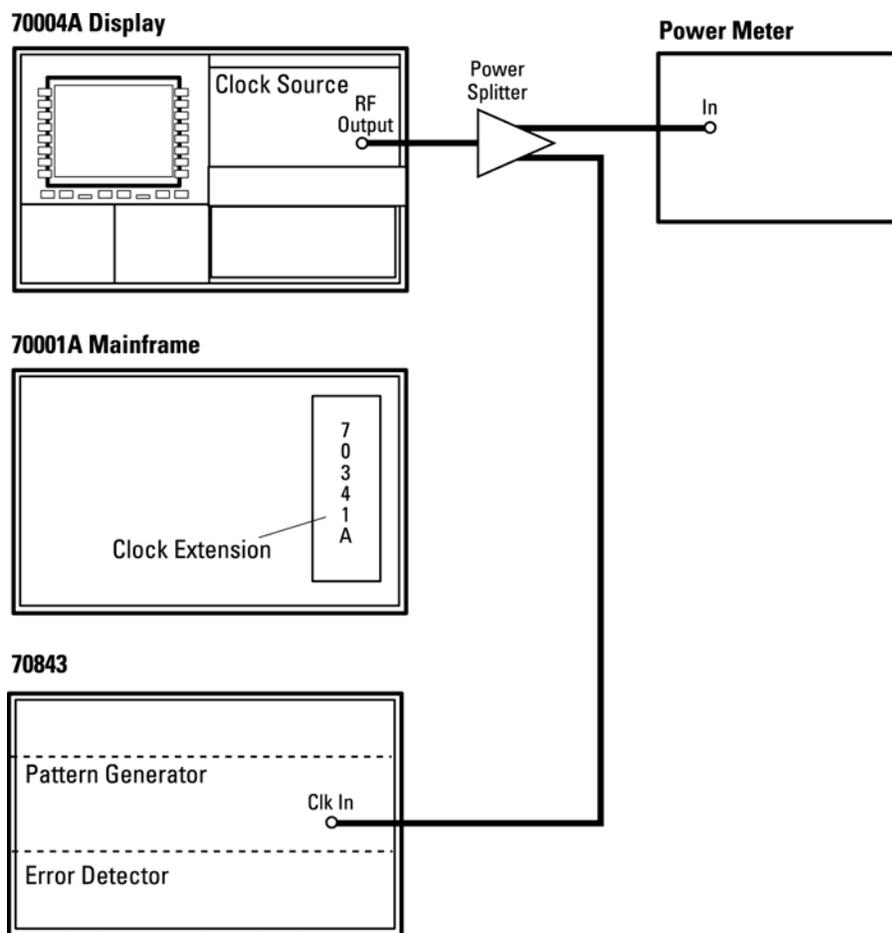

Figure 11-4
Connect the equipment as shown in Figure 11-4 and switch on the system. Press **INST PRESET** on the HP 70004A display to initialize the HP 70843 pattern generator and proceed as follows:
1. Connect the clock source RF output via a power splitter to the pattern generator and power meter as shown in Figure 11-4. Set the RF output level to 10 GHz at 0 dBm.